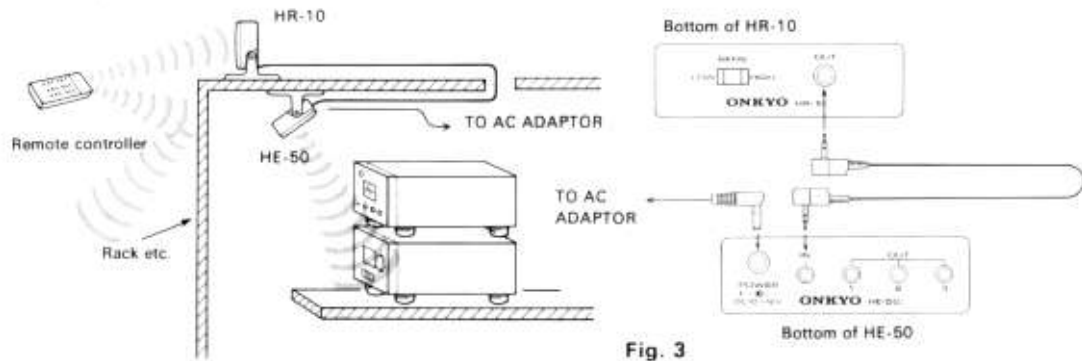

Fig. 3
- If components in the main room are installed in racks that do not pass infrared light and cannot be controlled, connect them as shown in Fig. 3. If they have infrared remote control features, they can be controlled even if they are not ONKYO products, but they cannot be controlled from another room.
- Remote control operation within the main room is the same as that for conventional operation. If components are connected as shown in Fig. 3, they can be controlled only in the main room.